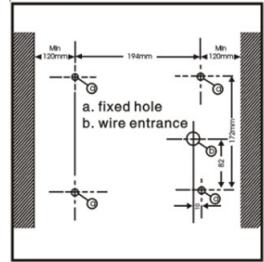

Figure 1
- As shown in (Figure 1), drill 4 holes of 6mm diameter 35mm deep using the template provided.